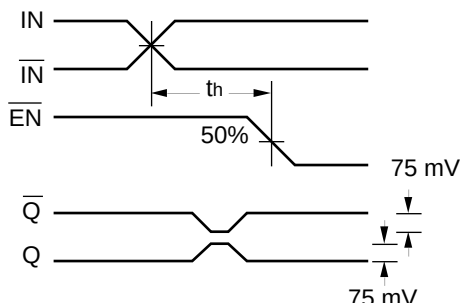

Figure 2. Hold Time
- The hold time is the minimum time that $\overline{EN}$ must remain asserted after a negative going IN or a positive going $\overline{IN}$ to prevent an output response greater than $\pm 75\text{mV}$ to that IN/ $\overline{IN}$ transition (see Figure 2).